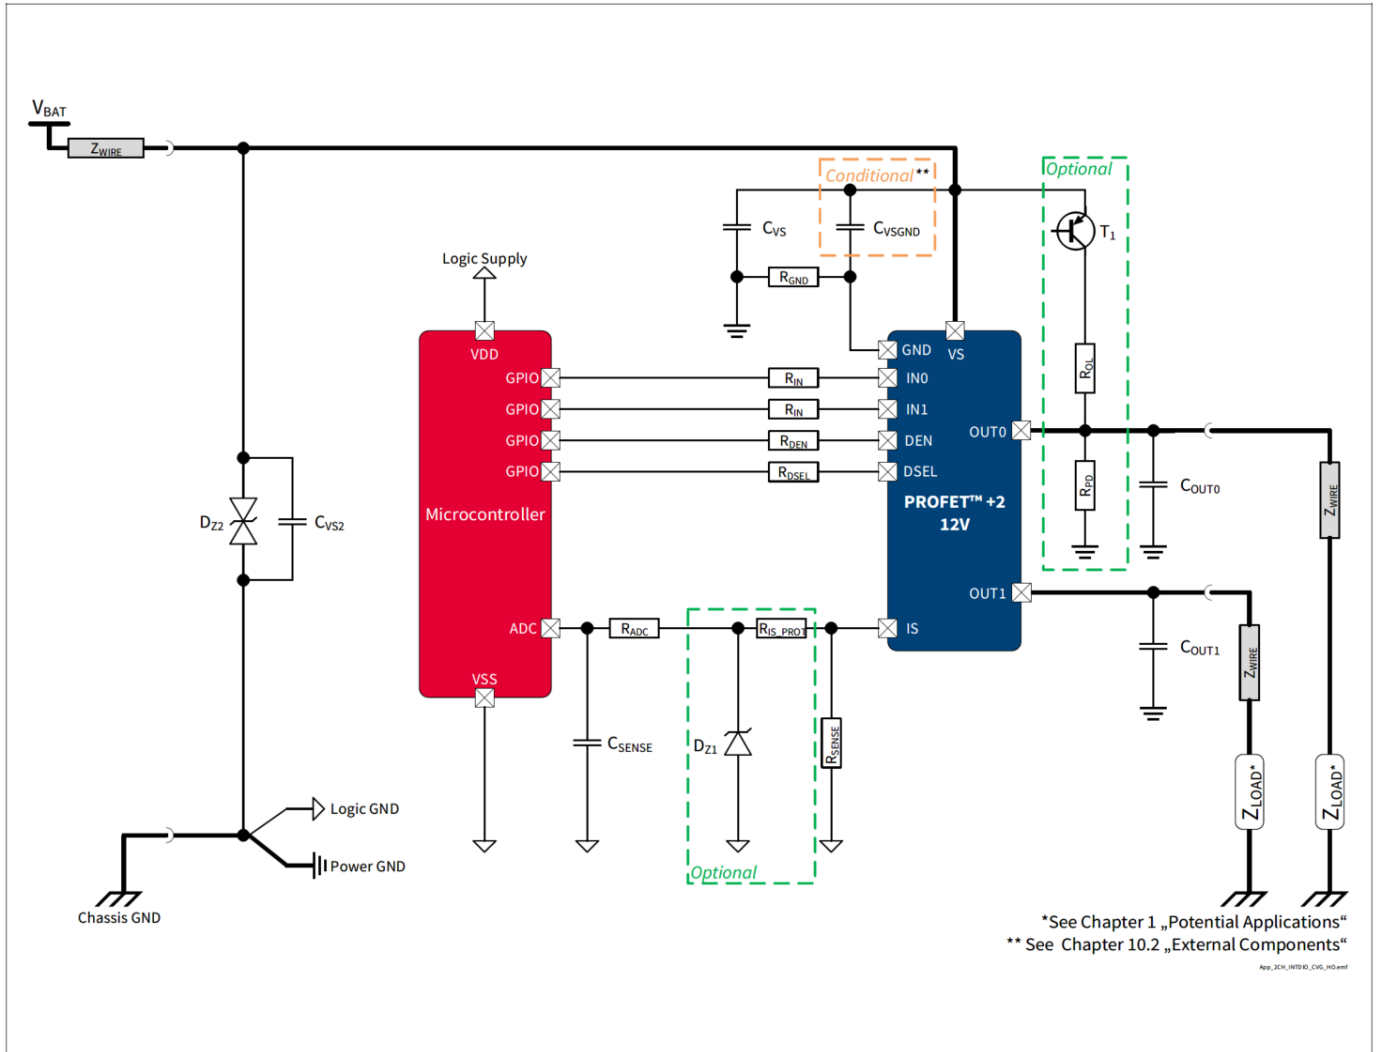

Figure 42 BTS7120-2EPA Application Diagram
1.03, 2019-10-15	P_8.7.8.1, P_8.7.8.7, P_8.7.8.8 updated (added in Note or Test Condition: link to Figure 25) P_7.5.8.4, P_7.5.8.5 updated (added in Note or Test Condition: DEN = “low”; link to Figure 19) P_7.5.8.12 updated (added in Note or Test Condition: See Figure 21 ; deleted unnecessary space in Symbol: $ dV_{OUT} / dt $ → $ dV_{OUT} / dt $) P_8.7.8.6 updated (added in Note or Test Condition: see Figure 26) P_9.7.8.1 updated (added in Note or Test Condition: see Figure 33) P_9.7.8.5 updated (Min./Max.: -45%/+45% → -27.0%/+27.0%) P_9.7.8.6 updated (Min./Max.: -36%/+36% → -25.5%/+25.5%) P_9.7.8.8 updated (Min./Max.: -30%/+30% → -24.0%/+24.0%) P_9.7.8.12 updated (Min./Max.: -14%/+14% → -12.5%/+12.5%) P_9.7.8.13 updated (Min./Max.: -11%/+11% → -8.8%/+8.8%) P_9.7.8.15 updated (Min./Max.: -6%/+6% → -6.0%/+6.0%) P_9.7.8.17 updated (Min./Max.: -5%/+5% → -5.0%/+5.0%) P_7.5.8.11 updated (added in Note or Test Condition: See Figure 19) Figure 1, Figure 42 updated Chapter 1 updated (or LED equivalent → or equivalent electronic loads (e.g. LED modules)) P_4.3.0.7 added Table 24 updated Chapter 5.1 updated (added: see Chapter 10 for the complete application setup overview)